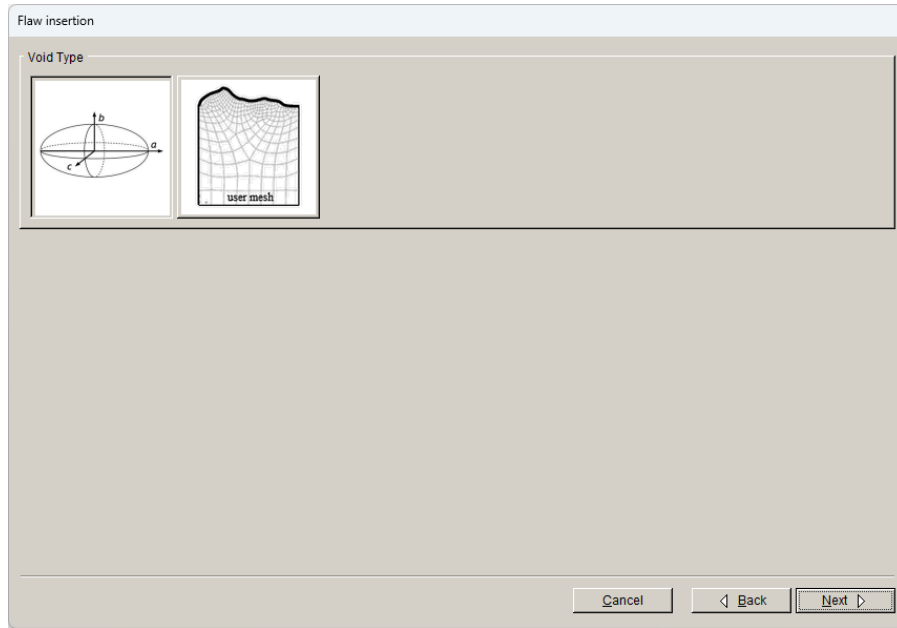

Figure 6.1.25 New Flaw Wizard void (finite volume flow) types.
- 1) ellipsoid – top left icon in Fig 6.1.25,